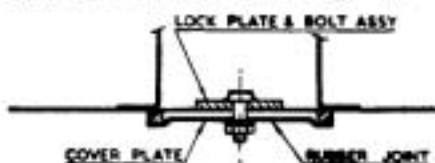

FIG. 7. MODIFIED DUCT COVERS.
- 10) Refit the wooden facia panel, and recheck the control knob position. With the stop valve fully closed this knob should correspond with the existing Demister Switch (M) when this is in its "OFF" position. Adjust the inner cable, if necessary, to give this requirement.
- 12) Remove the electrical heating element from the right-hand demister duct below the windscreen, disconnect both wires and withdraw these completely. Remove the existing blanking plate from the left-hand duct, and fit the two modified type cover plates provided. The oblong lock plate with the bolt attached should be first passed through the duct aperture with its length parallel to the facia board, and then turned at right-angles. The cover plate can then be fitted and secured with the lock nut as shown in Fig. 7.